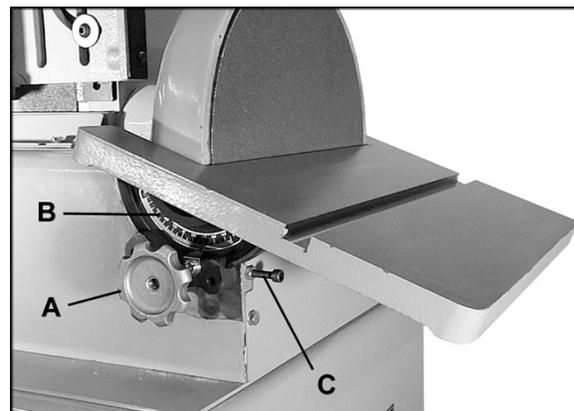

Figure 16
Refer to Figures 16 and 17:
- Internal threads of table locking wheels (A, Figure 16)